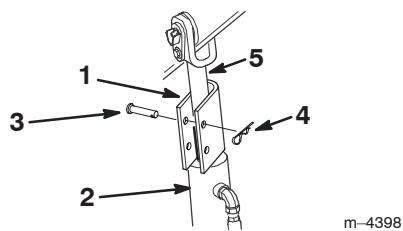

Figure 12
- Position a loader arm cylinder lock over each lift cylinder rod (Fig. 12).
- Secure each loader arm cylinder lock with a clevis pin and cotter pin (Fig. 12).